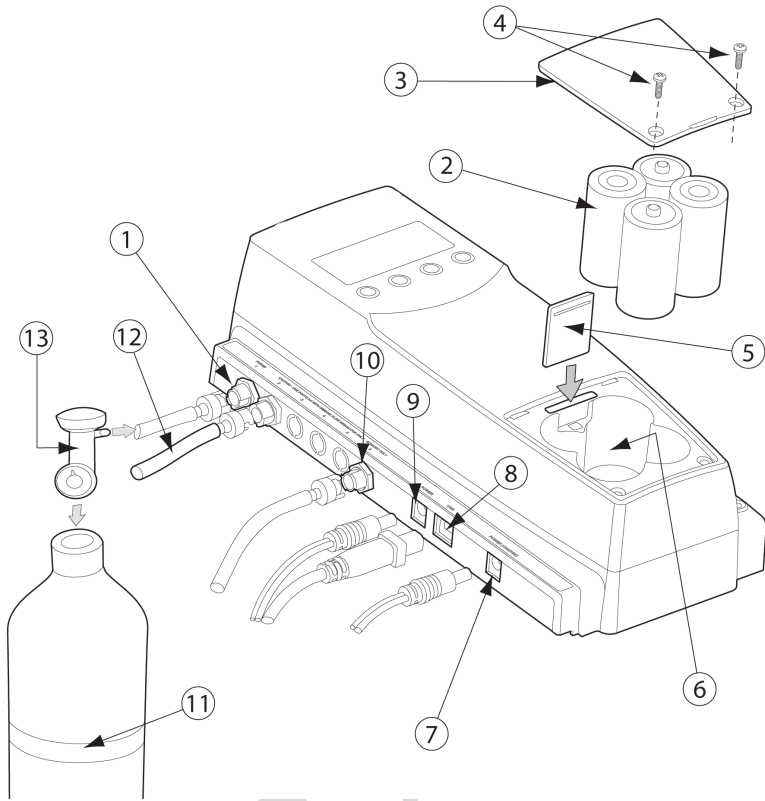

Figure 4. Station Connections
- Figure 4 and Table 6 Station Connections
To install batteries into the station, refer to Figure 4 and complete the following: